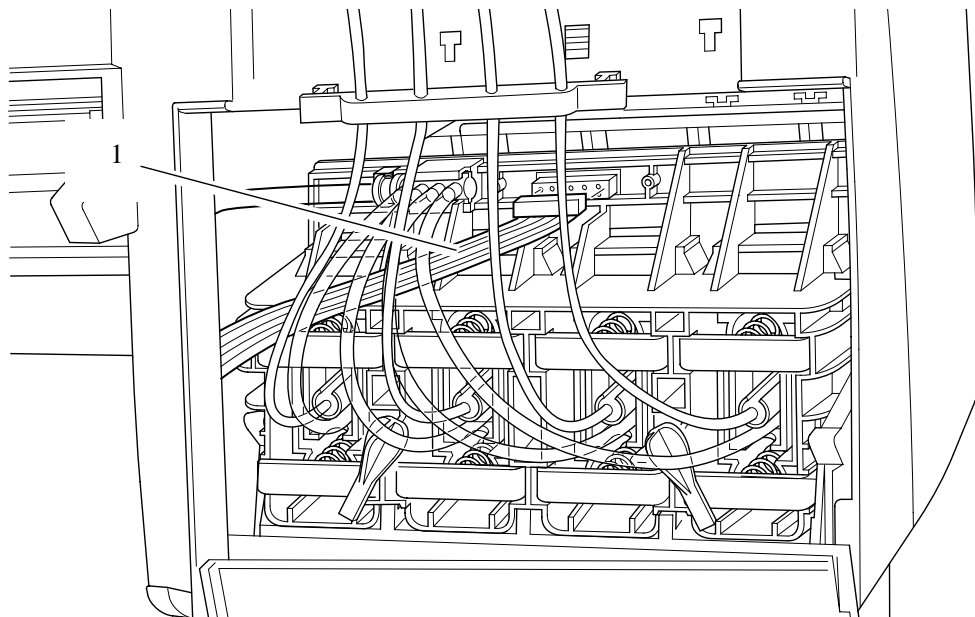

Figure 12: Ink Cartridge Tube Connector Cable
- Disconnect the ink cartridge tube connector cable (refer to Figure 12).